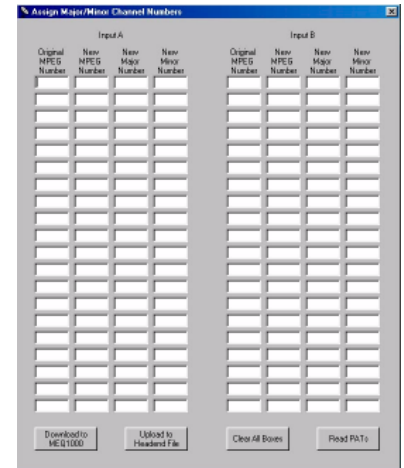

Figure 5
6) Click on the 'Set Major/Minor Channel Numbers' button. You will be presented with a screen shown in **FIGURE 5**.